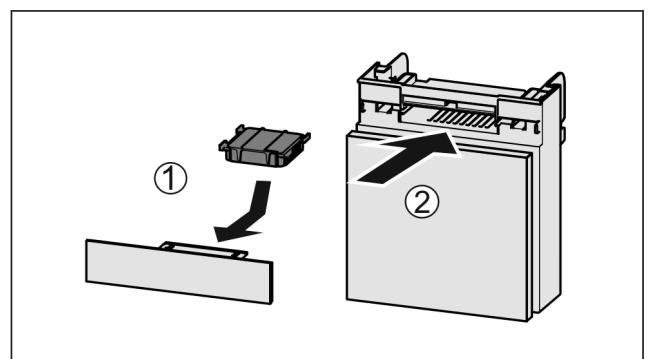

Fig. 148
- ▶ Insert the carbon filter as shown in the diagram Fig. 148 (1).
- ▶ Push the compartment in Fig. 148 (2).